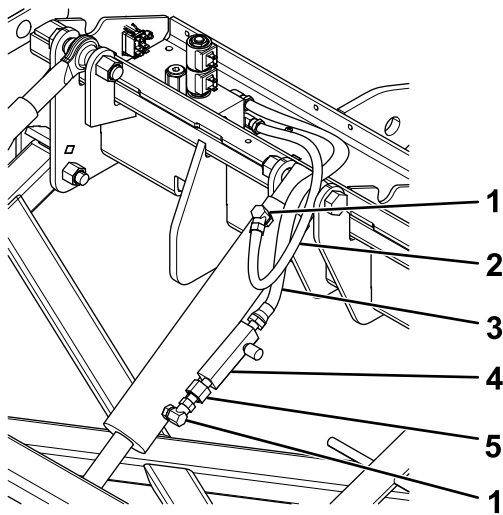

Figure 10
- Route the hoses toward the lift cylinder (Figure 10).
- Attach the 90° fittings to the lift cylinder as shown in Figure 10.
- Attach the flow control valve to the 90° fitting on the bottom of the lift cylinder using the coupler (Figure 10).
Note: Ensure that the adjustment knob on the valve is positioned towards the coupler assembly as shown in Figure 10.
- Secure the short hose to the top fitting on the lift cylinder (Figure 10).
- Secure the long hose to the flow control valve (Figure 10).